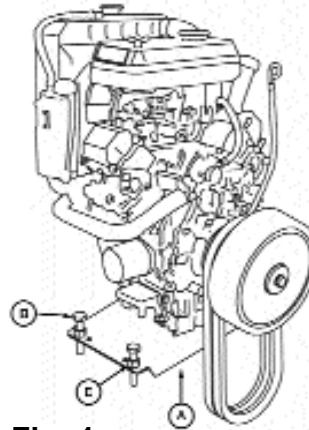

Fig. 1
1. Loosen the four bolts(A) underneath the engine mounting plate. (refer to fig. 1)
2. Loosen Jam nuts(E) and Loosen engine plate adjustment bolts (B) until belt tension is relived. (refer to fig 1.)